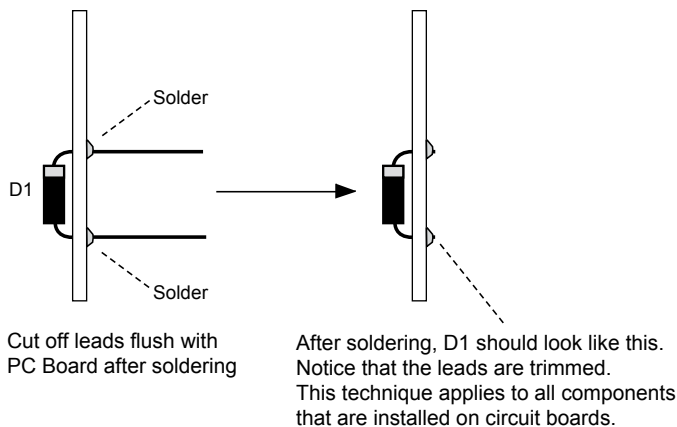

Figure 6a
6. Install metal legs by first turning board over so that the foil side is up. Now lay bent metal piece on top of pad as shown in Figure 6a and solder (legs should face forward shown in Figure 6b). Repeat for the other leg.